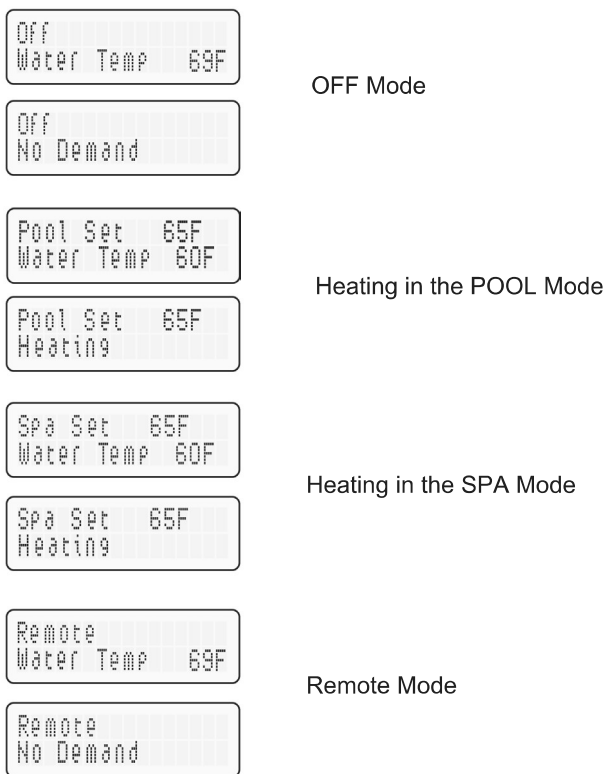

Figure 53. Remote Control Menu - Remote Operation
**⚠ CAUTION:** Before installing remote controls to the digital heaters, read the following: The digital thermostat model is remote-ready in most cases. The digital liquid crystal display (LCD) shows the actual pool temperature, operating status, and service codes. See Figure 53. The touch pad on the control panel allows you to select the desired pool or spa temperature. It also indicates when a remote system is controlling the heater by displaying Remote in the display. When connecting the heater to a remote system, identify whether it is a two- or three-wire remote system. Select the appropriate instruction listed below to properly install the remote to the heater.